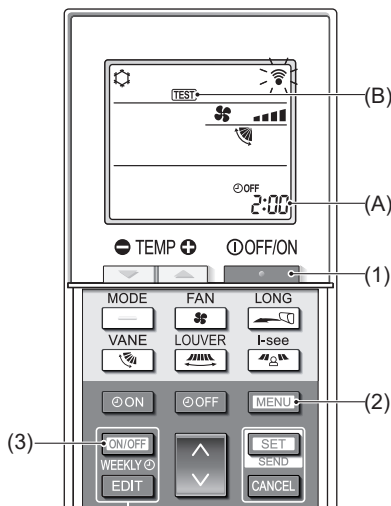

Fig. 7-5
■ Test run (Fig. 7-5)
- Press the button (1) to stop the air conditioner.
- If the weekly timer is enabled (WEEKLY is on), press the button (3) to disable it (WEEKLY is off).
- Press the button (2) for 5 seconds.
- Press the button (2).
- TEST (B) comes on and the unit enters the test run mode.